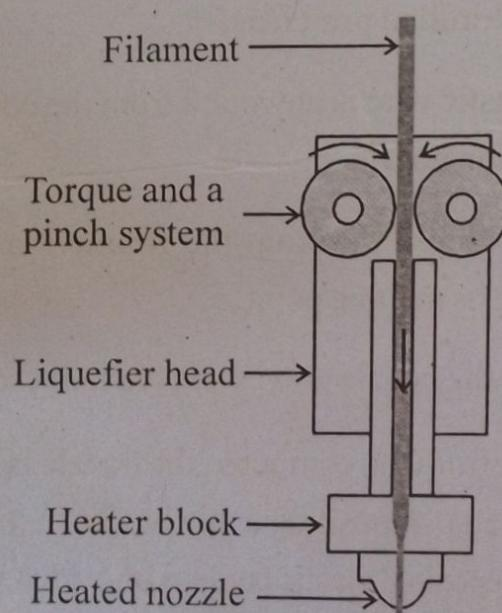

Figure 3.8 FDM nozzle construction
- ✓ Figure 3.8 is an illustration of the FDM nozzle construction.
- Polycarbonate (PC),